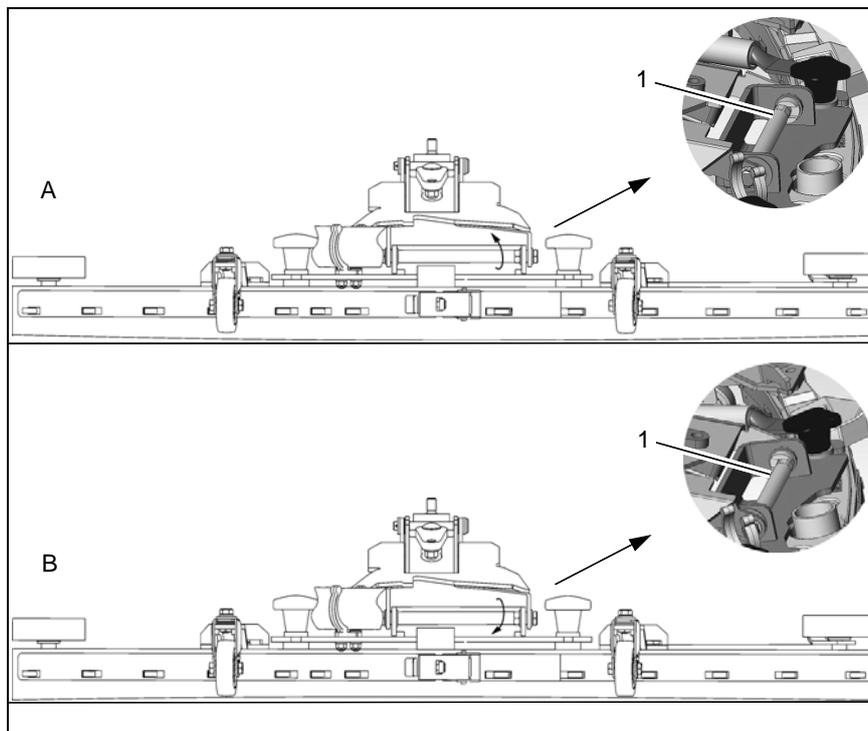

Fig.12
2. Loosen the screws on the eccentric wheel (Fig. 12/1) and adjust the squeegee using the eccentric wheel (SW13) so that the ends of the sealing strips still have contact with the floor.